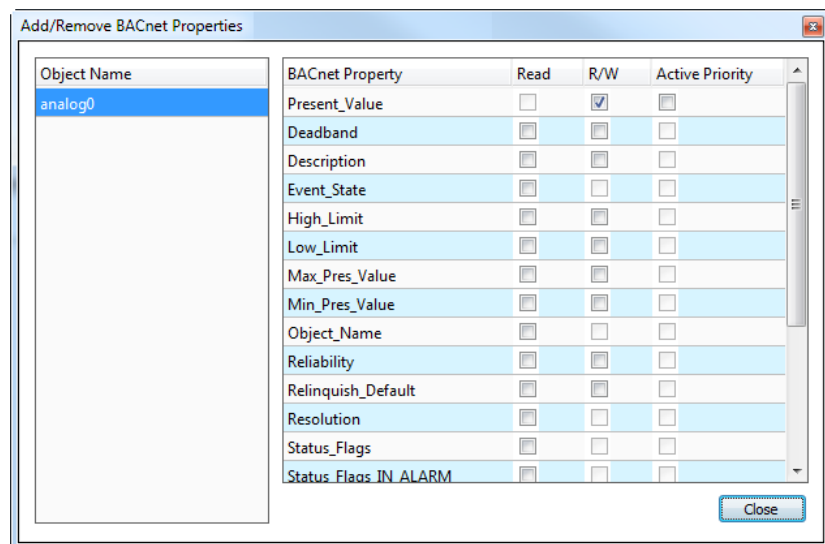

Figure 128: Dialog for adding/removing BACnet properties.
2. Right-click on the data point and select **Add/Remove BACnet properties ...** from the context menu. The dialog appears as shown in Figure 128.